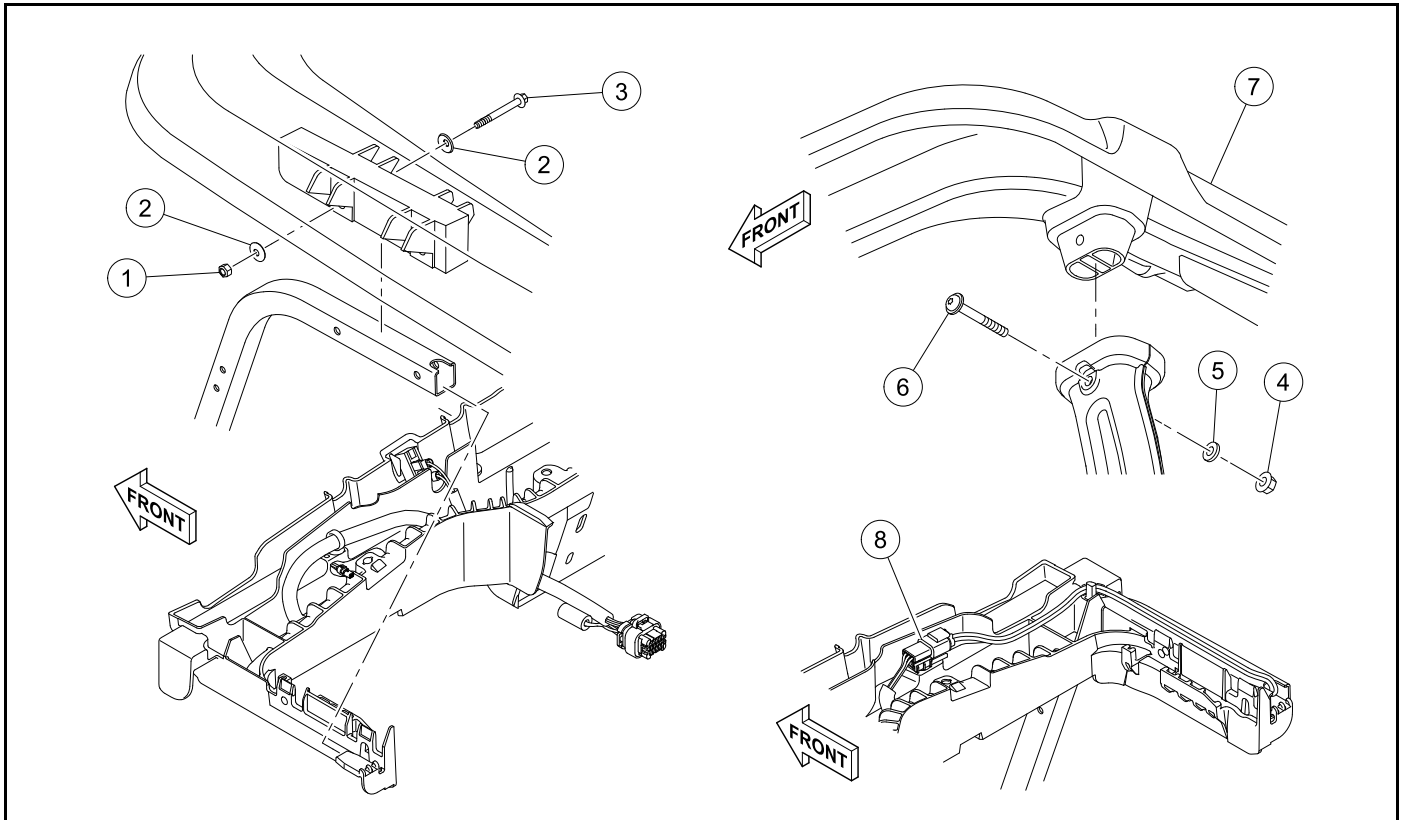

Figure 4-18 Two-Passenger Canopy With Visage Display Unit Removal
2. Remove the nuts (1), washers (2), and bolts (3) from each front canopy strut (**Figure 4-18, Page 4-23**).